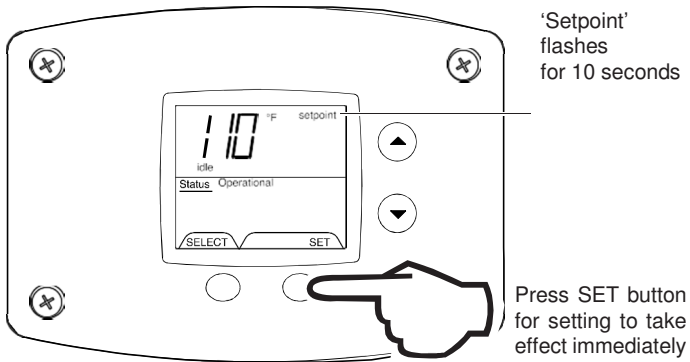

Fig. 21
3. Press 'SET' button for new setting to take effect immediately. 'Setpoint' will stop flashing. If the 'SET' button is not pressed, the new temperature setting will take effect in approximately 10 seconds (Fig.21).